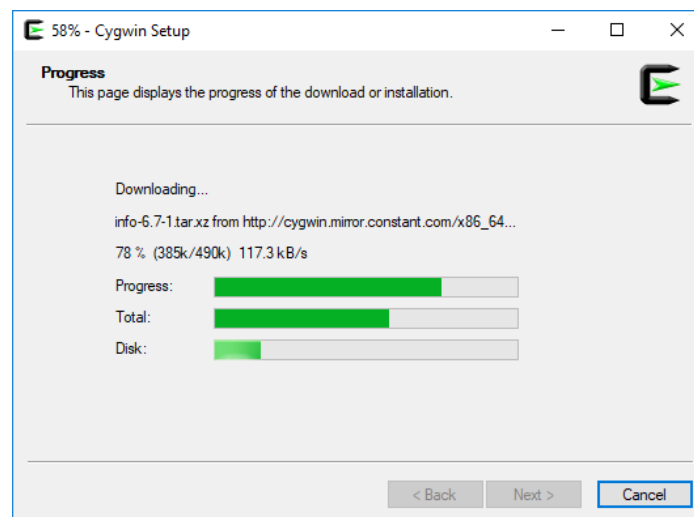

Figure 89. Cygwin setup
5. Once you have selected all the packages, click **Next** in the subsequent windows to include these packages in your Cygwin installation (the installation process, see Figure 89, may take several minutes).